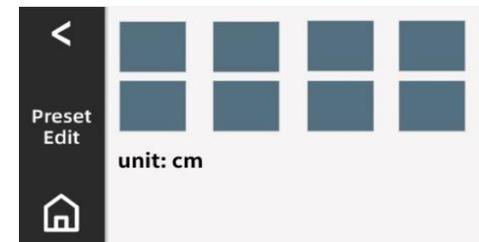

Figure 4a
- 2) Click “Edit” to enter length editable interface (Figure 4a), then set multiple lengths of paper pads (25~3600cm/10~1417inch) according to requirements;